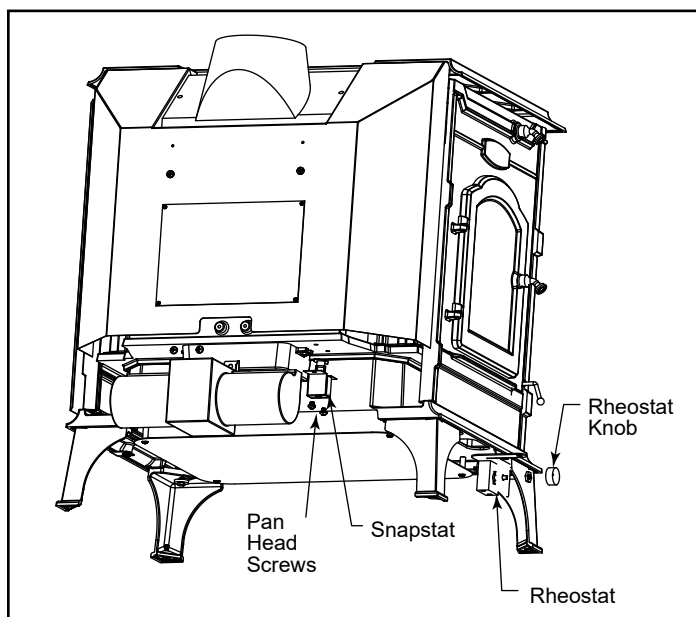

Figure 23 - Fan installation.
1. Secure the fan assembly to the inner back with two (2) 1/4-20 x 3/4" hex head screws and one (1) 1/4" star washer as shown in Figure 23.
2. Attach snapstat to the mounting holes on the underside of the bottom with two (2) 1/4-20 pan head screws.